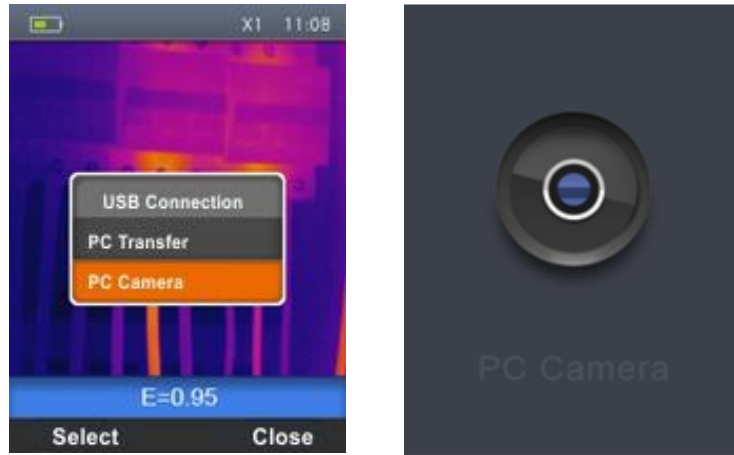

Fig. 39: Displaying an image on the PC in real time
1. Connect the USB cable to the instrument (see Fig. 3 – Part 16) and to the PC. The following screen (see Fig. 39 – Left side) is shown on the display:
2. Use the keys $\oplus$ or $\ominus$ to select the option "PC Camera" and press the "Select" key. The screen Fig. 39 – Right side is shown on the display.